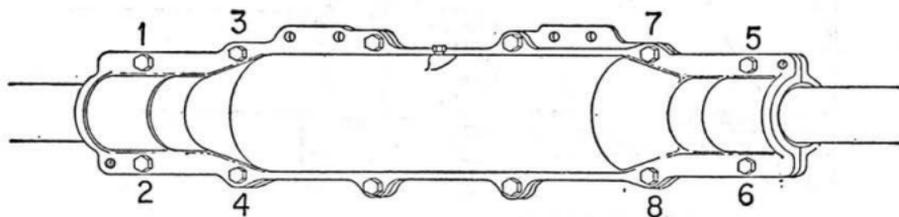

Fig. 21
3.11 Place bolts in positions 3, 4, 7 and 8 as shown in Fig. 21. If full size cables are being installed the separation may be so great that it will not be possible to start the nuts on the bolts. In these instances hex headed bolts 3/8 in. x 16 x 2 inches long should be used to pull the cases together until the regular bolts provided with the cases can be used in positions 1, 2, 5 and 6. The 2-inch bolts are available commercially and should be purchased locally.